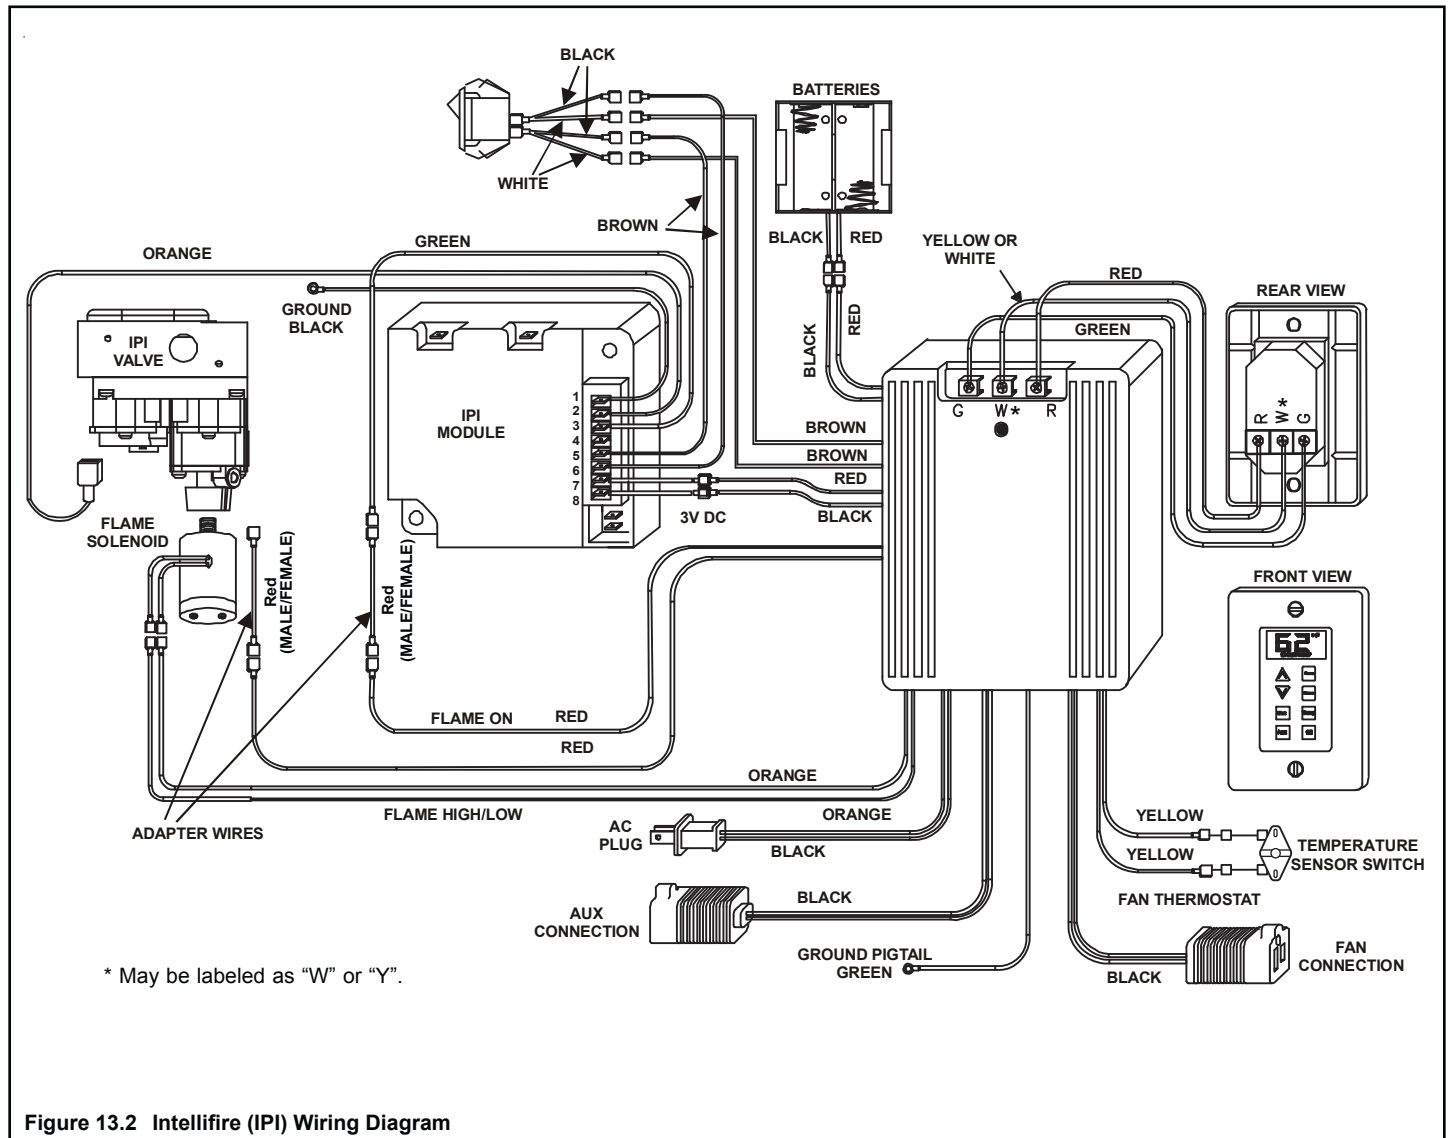

Figure 13.2 Intellifire (IPI) Wiring Diagram
- Refer to Figure 13.2, Intellifire Pilot Ignition (IPI) Wiring Diagram.
- Connect the wires to the terminals as shown in Figure 13.2. Do not over-tighten.
- See Figure 13.2 for wiring diagram.